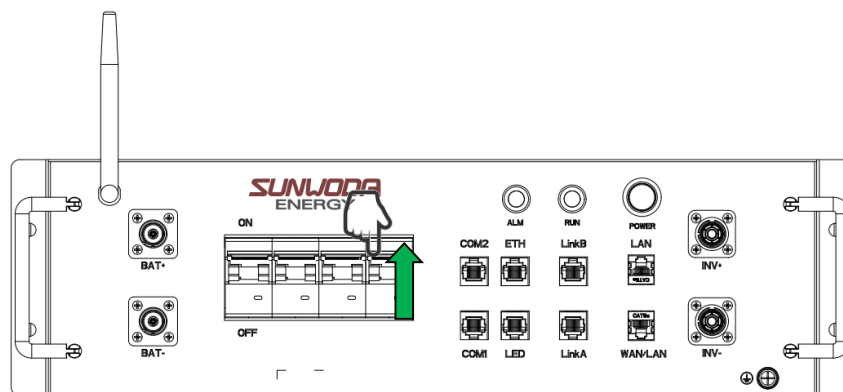

Figure. 4.1
Step 1: Push up on the air switch to power up the system (Fig.4.1) .